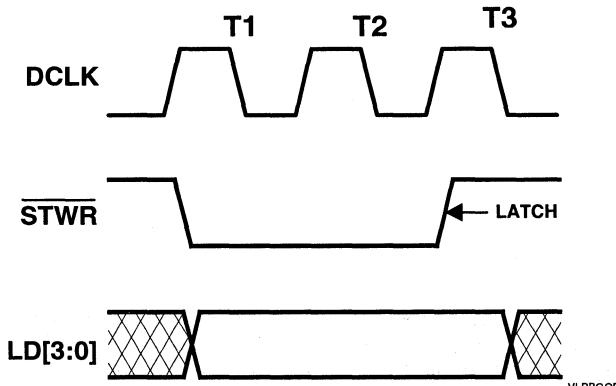

Figure 12-6. General I/O Port Timing (PCI)
5. Write (anything) to CR5C. The data on LD[7:4] are latched 2 DCLKs later into MMFF1C_7-4. (This also drives the contents of MMFF1C_3-0 onto LD[3:0] and generates the STWR pulse on pin 190. The input data is latched on the rising edge of STWR. See Figure 12-6)
LD[3:0] and the STWR pulse is generated. The rising edge of STWR (2 DCLKs after it is asserted) can be used to latch the data into an external device. The data is held valid for 1/2 DCLK after this edge. See Figure 12-6.